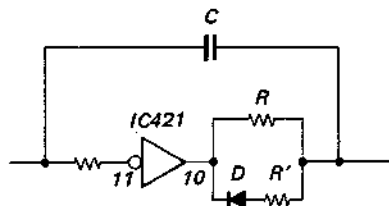

Fig. 2-11
3. The circuits of Figs. 2-11 and 2-12 are not oscillators, but are integrators using the very high input impedance of MOS ICs. The purpose of using these circuits is to obtain some delay which is achieved by C and R.